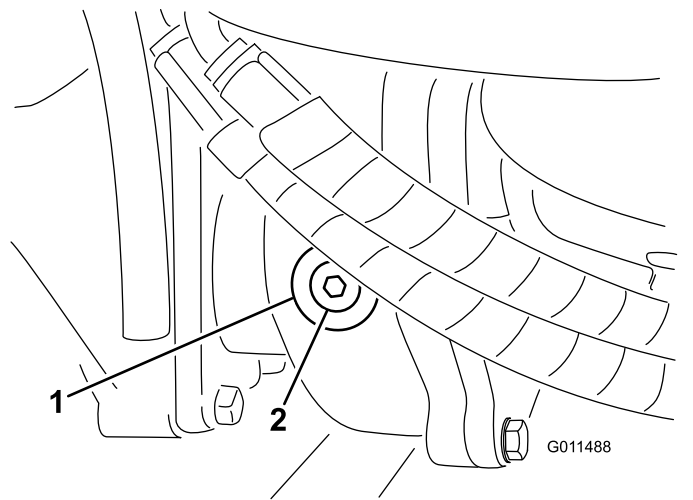

Figure 108
2. Remove the check/fill plug from the left side of the gear box (Figure 108) and make sure that lubricant is up to the bottom of the hole. If the level is low, add enough lubricant to bring the level up to the bottom of the hole.